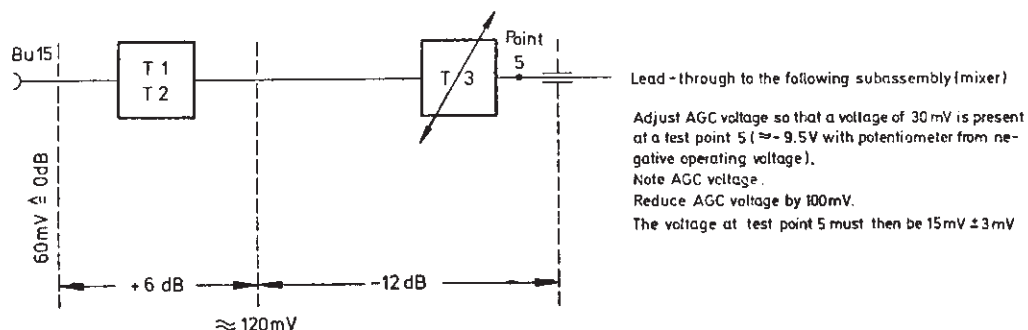

Fig. 5-3 Level schedule for the measurement of the RF levels at the buffer and AGC amplifier
**RF level check:** Test frequencies: 48 MHz (range II), 400 MHz (range VII). Measure with UHF-DC Millivoltmeter Type URV ( $Z_{in} \geq 50\ \text{k}\Omega$ ;  $C_{in} \leq 1\ \text{pF}$ ). See level diagram Fig. 5-3.
- Set the output attenuator to  $-20$  dB and connect the RF output (A) with the RF input (B) via a  $50\text{-}\Omega$  cable.
- Bring the cable line to coincidence with the EMF line by means of button "Vertical gain Y1". This line serves as reference line for the 0-dB amplification between (A) and (B).